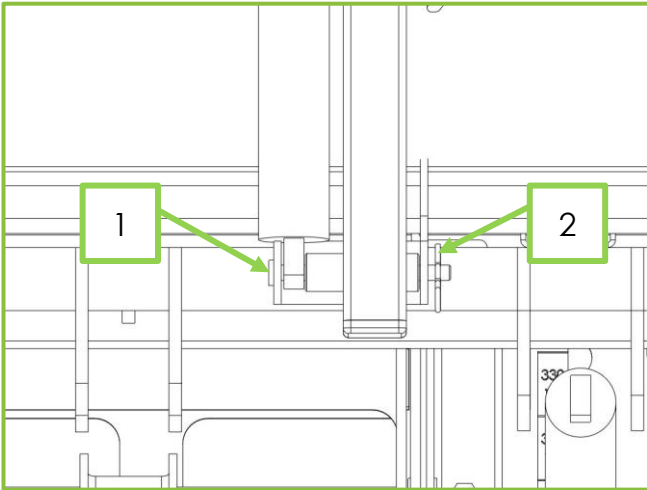

Figure 4
6. Insert the clevis pin (Fig 4, Item 1) through the clevis at the back of the main frame, the gas strut and the backrest lockout slide. Secure the pin with the R-clip (Fig 4, Item 2).